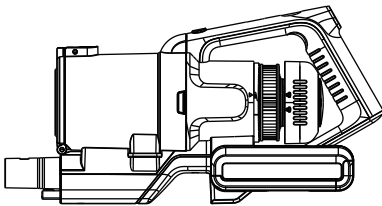

Fig. 19
7. To clean or replace the post-motor filter, turn the cover anticlockwise and lift off the cover(fig. 19), remove the filter(Fig.20), wash and dry the filter in accordance with step 4.